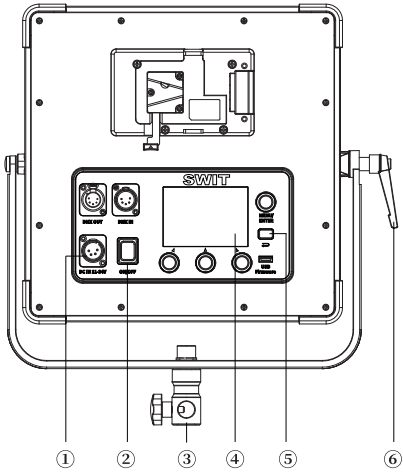

Fig.6 VANGO-70 Back View
- ▶ User can return back to Menu via " " button (Fig.6 ⑤);